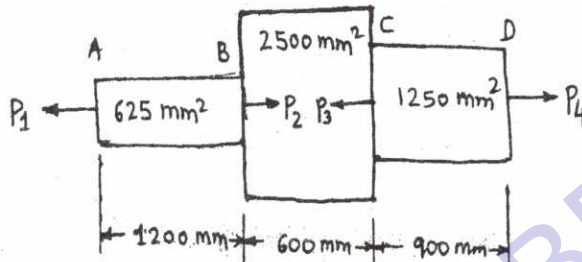

Fig.Q1(c)
- c. A member ABCD is subjected to point loads P_1 , P_2 , P_3 and P_4 as shown in Fig.Q1(c). Calculate the force P_2 necessary for equilibrium, if $P_1 = 45$ kN, $P_3 = 450$ kN and $P_4 = 130$ kN. Determine the total elongation of the member, assuming the modulus of elasticity to be 2.1×10^5 N/mm². (12 Marks)